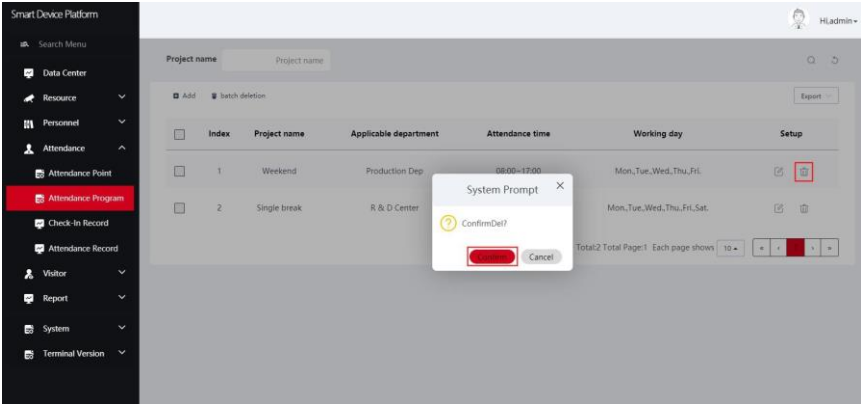

Figure 5-97
Step 2: Click " → Confirm" to complete the solution to be deleted, as shown in Figure 5-97 below.